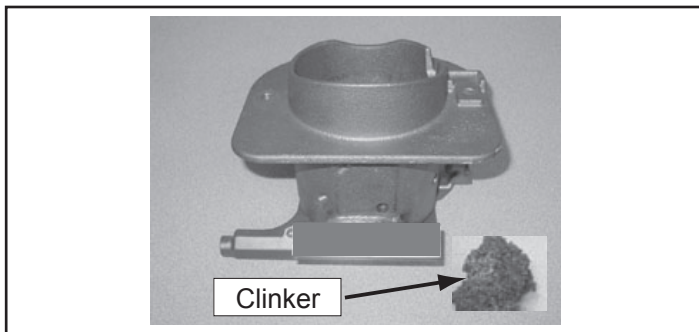

Figure 17.1 - Fire pot with large clinker
- It may be necessary to use your fire pot clean out tool to chip away material that has built up on the sides of the fire pot and to push out any clinkers. **Figure 17.1**